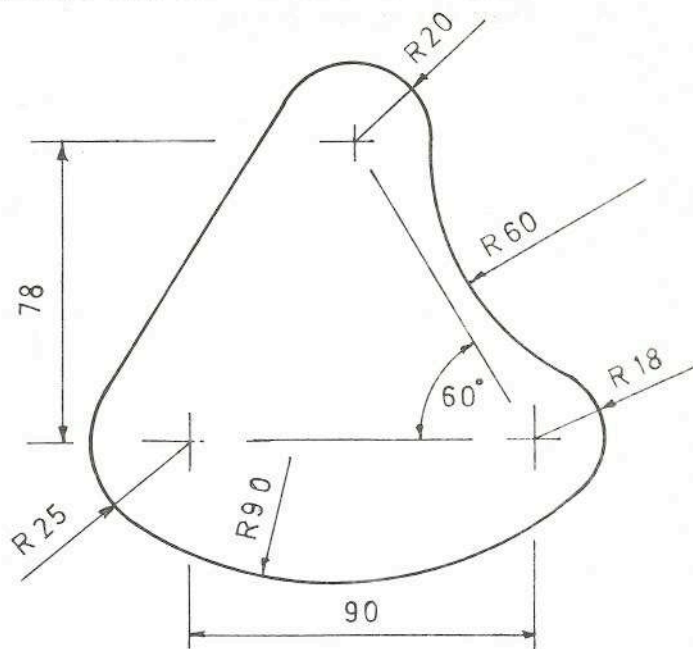

Fig. 6
6. (a) The outline of a design is shown in Fig. 6. Draw this outline to the given dimensions showing clearly all tangency points for the arcs.